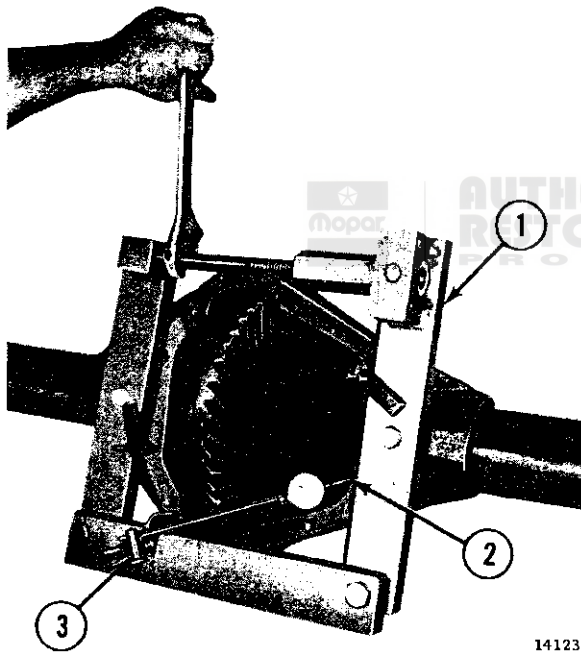

FIG. N-19—DIFFERENTIAL CARRIER SPREADER TOOL W-129
- c. Use Spreader W-129, as shown in Fig. N-19, to spread the housing. Install Hold-Down Clamps W-129-18, if available, to keep the spreader in position. Clamp on a dial indicator. From the side, measure the carrier spread. Do not spread the carrier more than .020" [0,508 mm.].